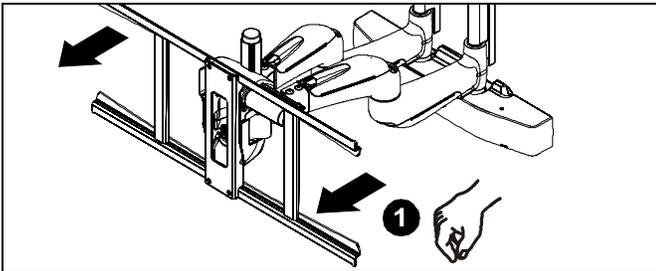

Figure 24
1. Carefully pull arms out from wall. (See Figure 24)